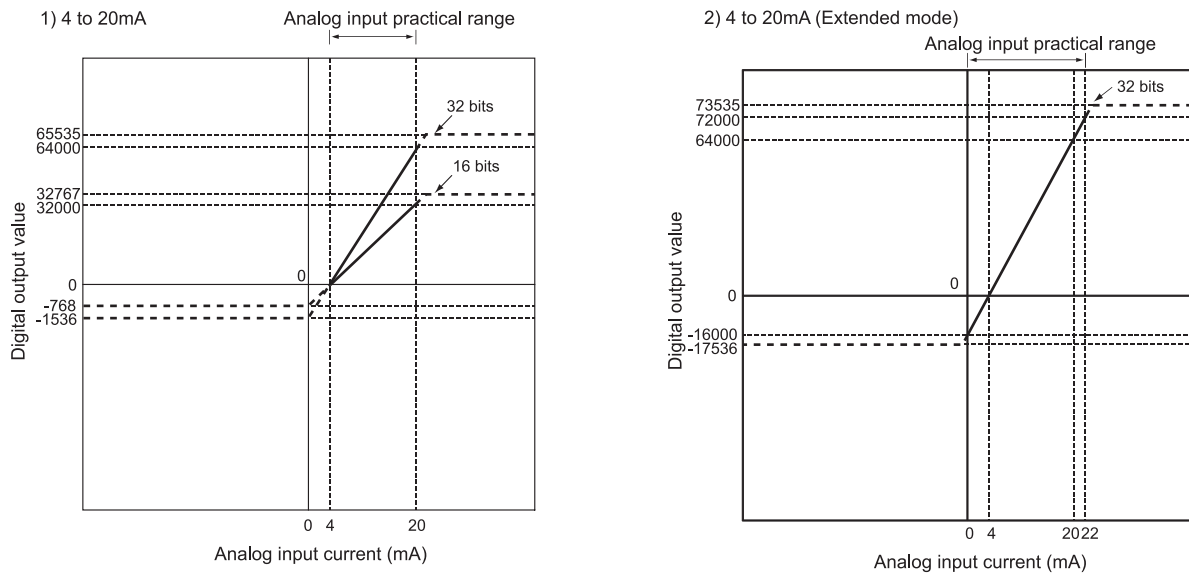

Fig. 3.3 Input characteristic of Q62AD-DGH
Fig. 3.3 shows a graph of the Q62AD-DGH input characteristic.
(1)	Set within the analog input range and digital output range for each input range. If these ranges are exceeded, the resolution and accuracy may not fall within the performance specifications. (Avoid the use of dotted areas of Fig. 3.3.)
(2)	Do not input an analog input current of 0mA or less, or 30mA or more. Doing so can cause the breakdown of the elements.
(3)	Set the offset/gain values for the user setting range within a range satisfying the following conditions.